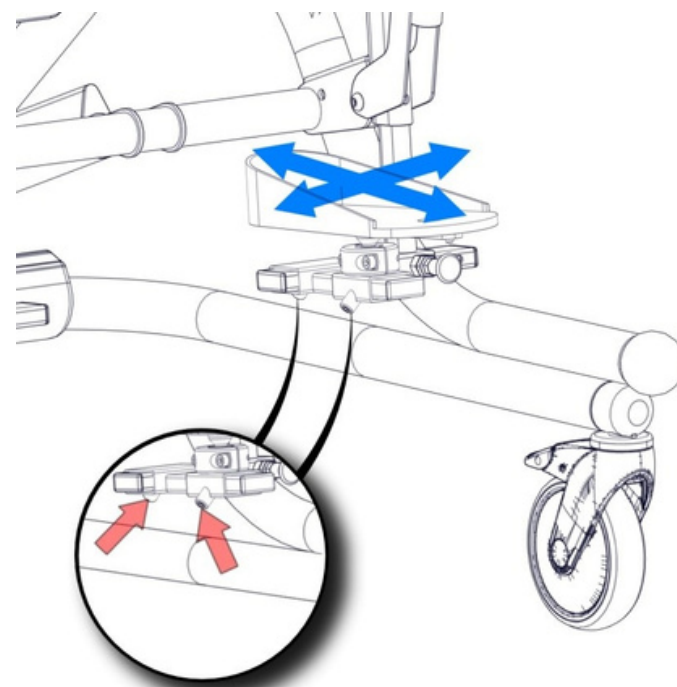

Fig. 28
The adjustment forward-back and side-to-side can be done by loosening the screws marked with red pointers on the Fig. 28, by using the allen key 4mm. After the adjustment is done, the screws should be tightened back.